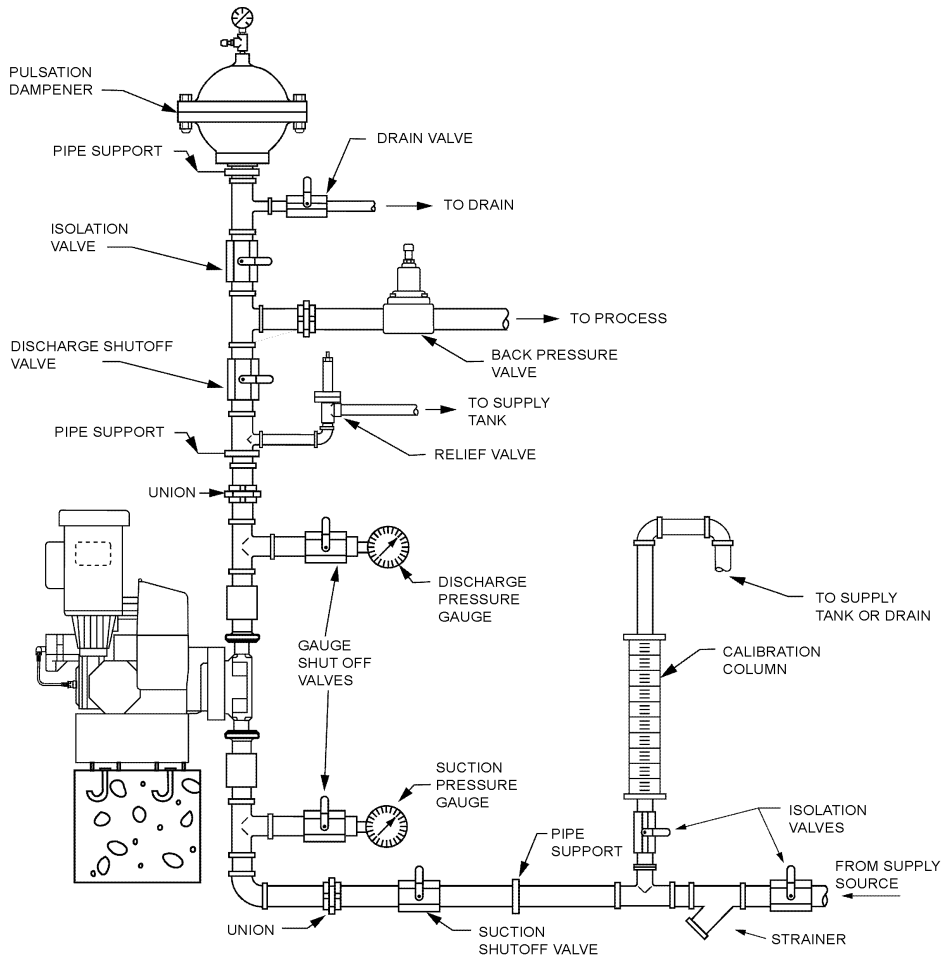

Figure 1 – Typical Installation.
2. Calibration is an important element of successful DLC operation. Permanent installation of a calibration column as depicted in *Figure 1* is strongly recommended.